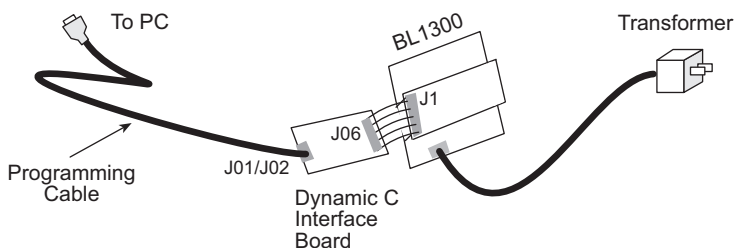

Figure 2-3. Using Dynamic C Interface Board to Program BL1300
- Establish a serial communications link. Connect header J06 on the Dynamic C Interface Board to the 40-pin header, J1, on the BL1300's SmartBlock.™ The 40-wire cable is included with the Dynamic C Interface Board. Figure 2-3 shows the connections.